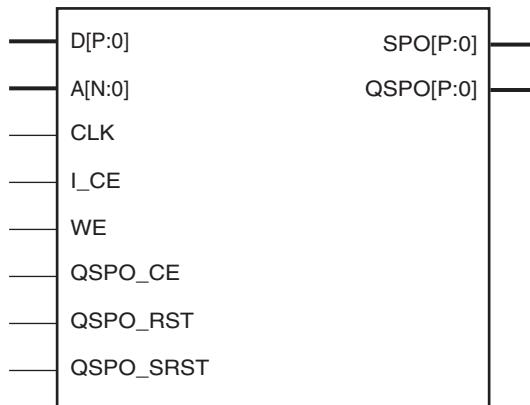
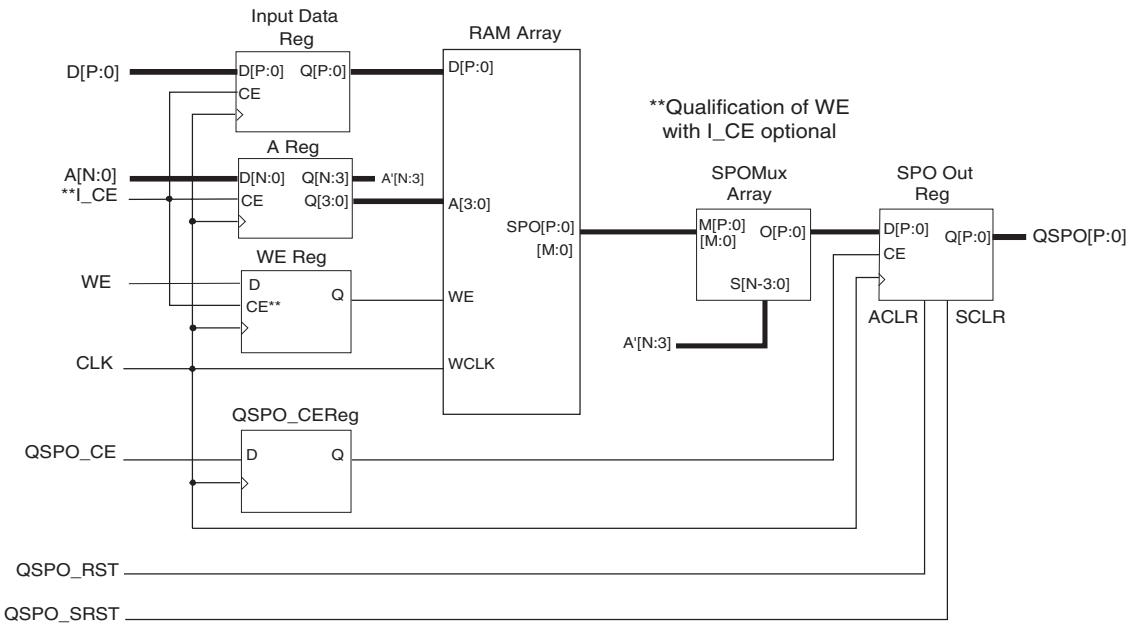

Figure 3: Distributed Single-Port RAM Schematic Symbol
Figure 4: Distributed Single-Port RAM Module Schematic
The distributed single-port RAM uses the single-port distributed RAM resource of the LUT. Writes to the Single-Port RAM are synchronous to the clock (CLK). However, read operations can be asynchronous (SPO) or synchronous to the clock (QSPO). Figure 3 illustrates the distributed single-port RAM schematic symbol, and Figure 4 illustrates its internal implementation. If a pipeline register is added to a registered core (not illustrated), the additional register is re-timed into the SPO MUX array. For timing information about the distributed single-port RAM, see the platform-specific user guide for the target FPGA architecture.
- **Single-Port RAM.** Figure 4 illustrates a schematic of the structure of the single-port RAM modules. The address and data registers are optional (controlled by the setting of the Input Options parameter). Output registering is also optional (controlled by the setting of the Output Options parameter). The resets and clock enables are optional. The clock CLK is always required because writes to the single-port RAM are synchronous to that clock.